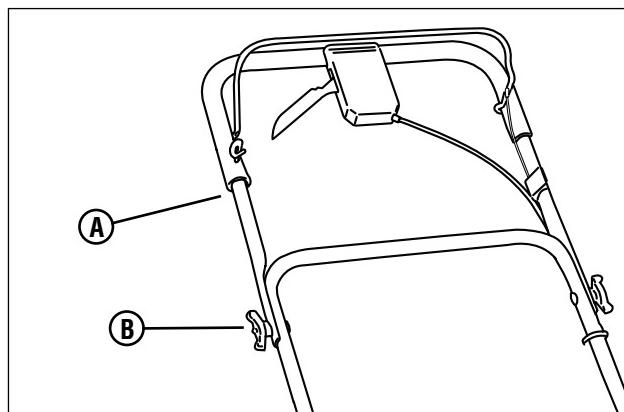

Figure 2: Unfolding the upper handle
4. Put the upper handle (A, **Figure 2**) in the operating (upright) position. Tighten the wingnuts (B).